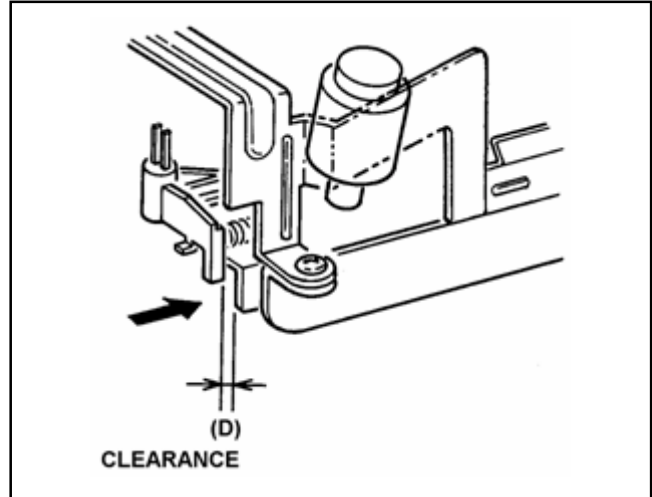

Figure 5-22-3
2. Observe the clearance (D) between Cleaning Arm Unit and Cleaner Base Plate as shown in Figure 5-22-3. And make sure that it is within 0.5 to 0.7mm.
3. If not, loosen the 2 screws (A) and adjust the position of Cleaner Solenoid Unit by moving arrow direction (C \longleftrightarrow C) using the Eccentric drive so that the clearance (D) is within the specification. And tighten the 2 screws.